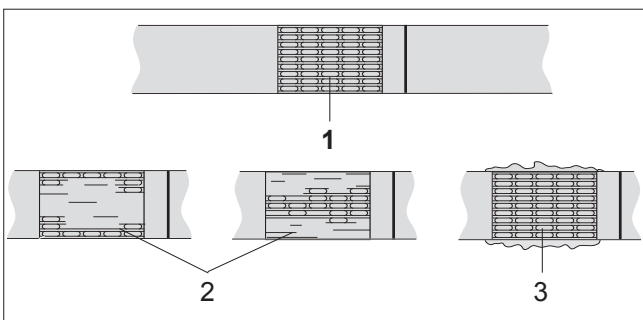

Fig. 10
- Check appearance of seal (see fig. 10) regularly. If the straps are poorly welded, **check the welding time setting (refer to chapter 7.2).**
- Adjust welding time according chapter 6.2, Fig. 10/2.